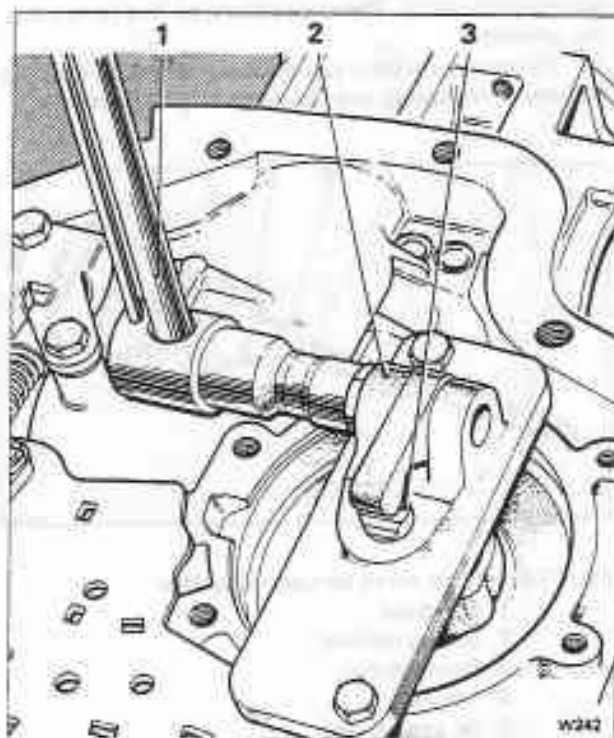

Fig. T14-2 Selecting the band apply pin
1. Fit the band apply pin selector gauge J-21370-6, onto the bottom face of the transmission casing. The gauge must fit over the rear servo bore with the hexagonal nut on the side of the gauge facing the parking linkage. The smaller diameter end of the gauge pin J-21370-5, should be positioned in the servo pin bore (see fig. T14-2).
6. To determine the correct size pin to use, apply 34 Nm (3,5 kgf m; 25 lbf ft) to the hexagonal nut on the side of the gauge (see fig. T14-2). This will cause the lever on top of the gauge to depress the stepped gauge pin into the servo pin bore, simulating the actual operation of the servo.